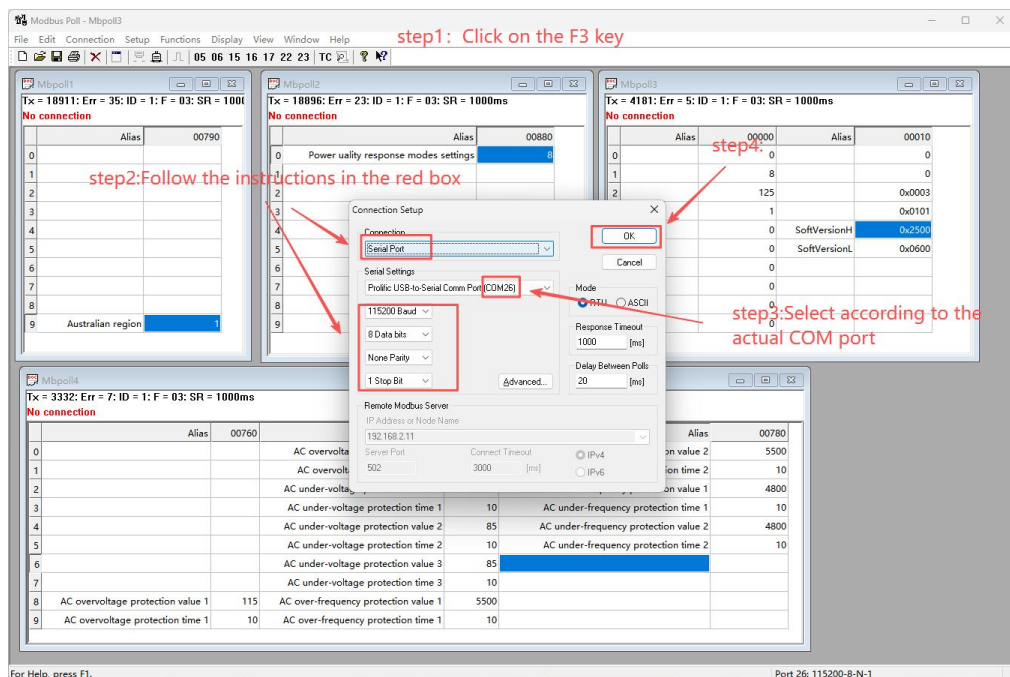

Figure 31 Software Link Operation Diagram
Step 4: After the software installation is successful, the desktop shortcut "VGrid" will be created, as shown in Figure 31.